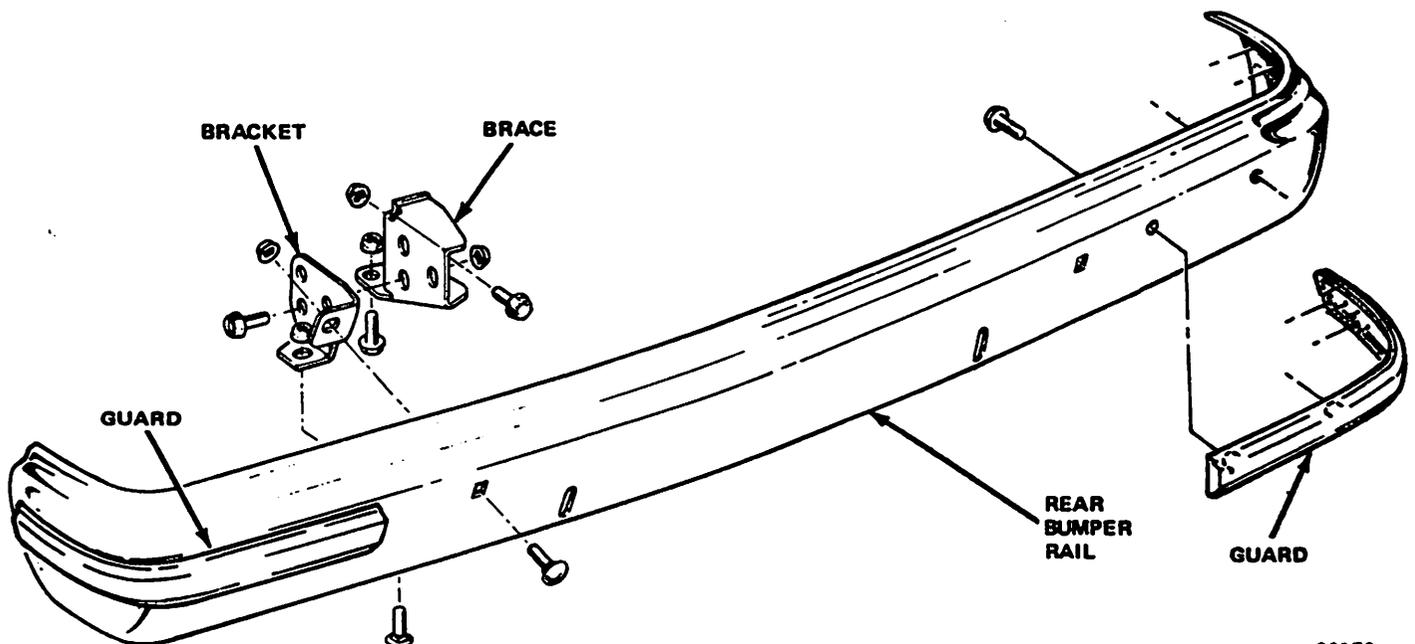

Fig. 3F-21 Rear Bumper—Cherokee-Wagoner Models 90178
- (1) Remove bumper guards (fig. 3F-21) from bumper rail, if equipped.